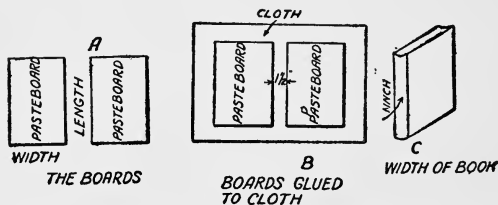

FIG. 71. HOW TO CUT BOARDS AND CLOTH FOR BOOK BINDING
*Making the Cover.*—First mark out with a rule and then cut out two pieces of pasteboard each of which is just as wide as the book you are going to bind and  $\frac{1}{4}$  inch longer as shown at A in Fig. 71.